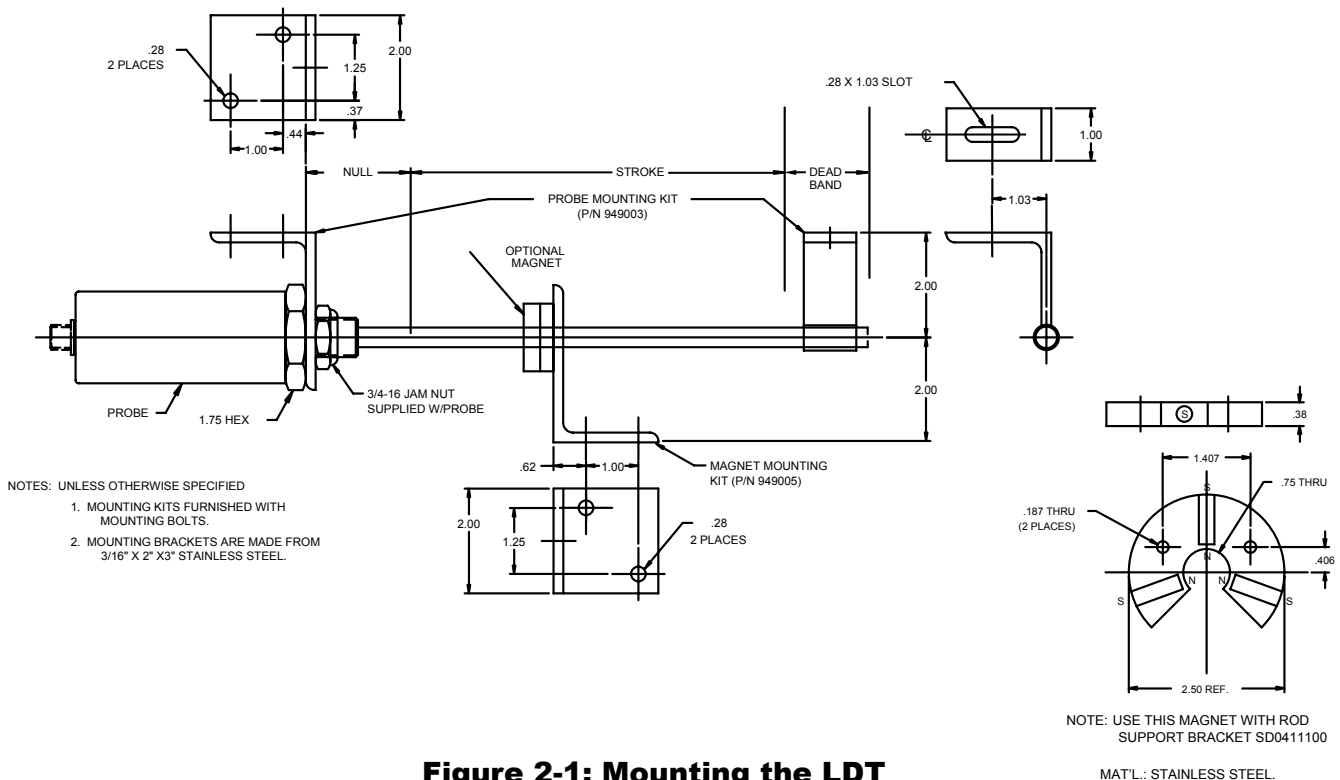

Figure 2-1: Mounting the LDT
WARNING: Do not use the blue aluminum cover of the head assembly or connector/cable nut (either a 1 1/16" Amphenol connector or 1 3/16" cable nut) to tighten the LDT within the bracket (see Figure 2-1). This may damage the LDT and will void your warranty. To tighten the LDT within the bracket, use the 1.75" hex mounting base on the head assembly.
- A non-ferrous spacer must be used to separate the magnet assembly from the head of the piston rod. See Figure 2-1.